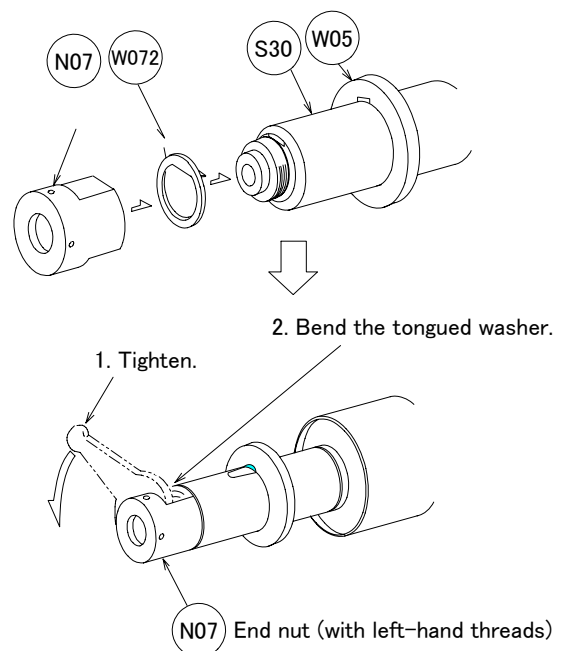

Fig.4-22 Mounting of Tongued Washer
- (3) Before mounting the end nut (N07) in the shaft, insert the tongued washer (W072), and after tightening the end nut, bend the tongued washer to prevent the end nut from loosening. (Refer to Fig.4-22.)